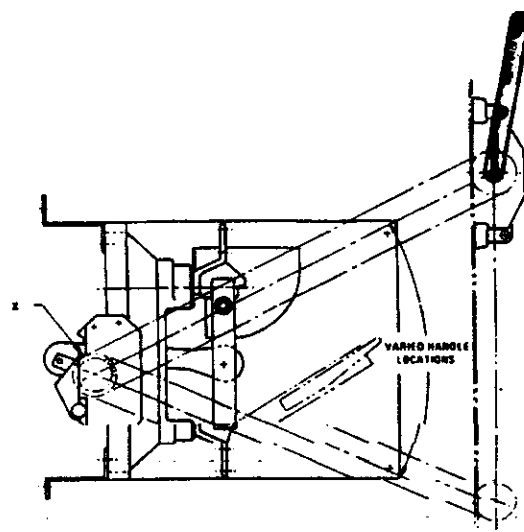

Fig. 1 Handle "UP" in switch closed position.
The component parts for this type of arrangement are shown in Fig. 1. The switch and frame are mounted vertically in the enclosure. The arc chute interrupter is situated above the blade hinge. The switch is chain driven with the handle located on the left front of the enclosure. Normally, the handle is in the "up" position with switch closed.
- Assemble the chain drive sprocket kit (Mk 302, Dwg. 316-557, sprocket, washer and retaining ring) on the stored-energy device of the switch at the left as shown at (X) in Fig. 1. Make sure HUB of sprocket is next to side plate of mechanism.
- Mount the frame-mounted switch (Fig. 1 ) in the enclosure.